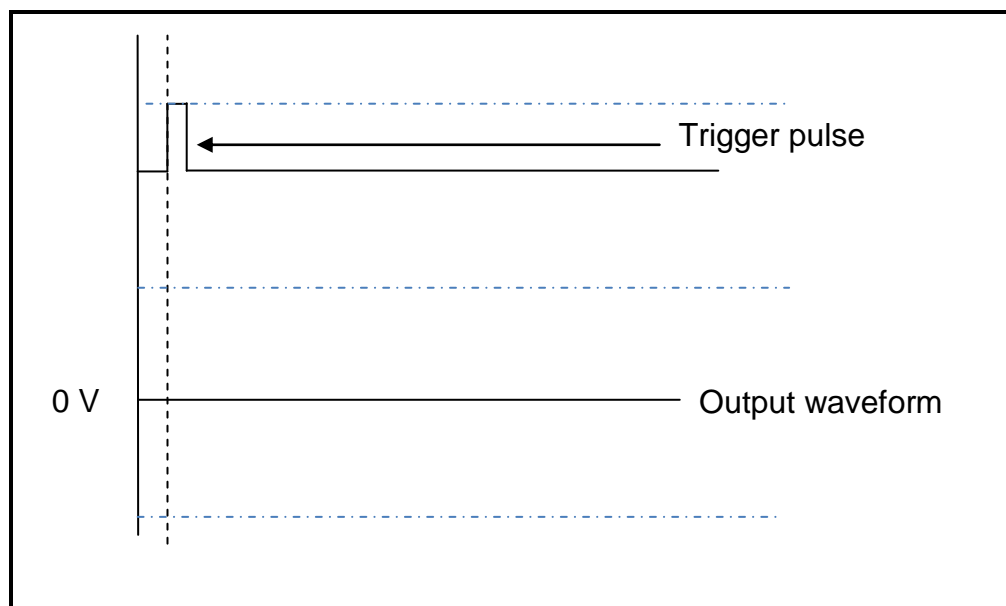

FIGURE 7.6: INPUT TRIGGER PULSE FOR FIGURE 7.5
- 7.9.4 Redraw the input waveform shown in FIGURE 7.6 and directly below it draw the output waveform. Show the time calculated in QUESTION 7.9.3 on the output waveform.